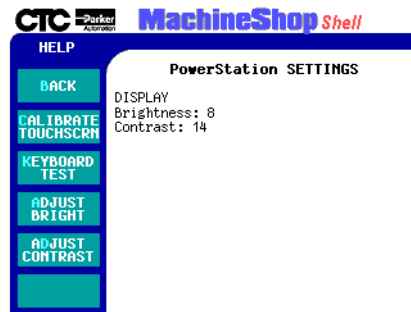

Figure 4-4 PowerStation Settings Menu
2. On the Settings submenu, press the PWRSTA button. The PowerStation Settings menu will appear as shown in *Figure 4-4*.